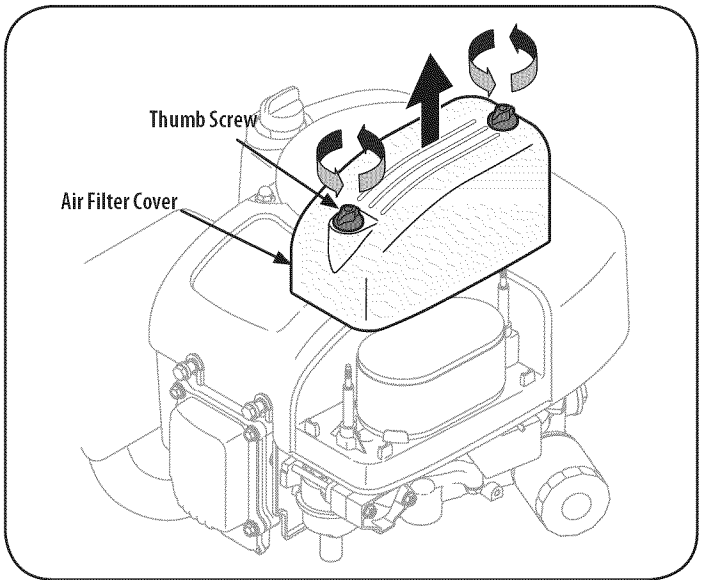

Figure 16
1. Unscrew the thumb screws and remove the air filter cover. See Figure 16.